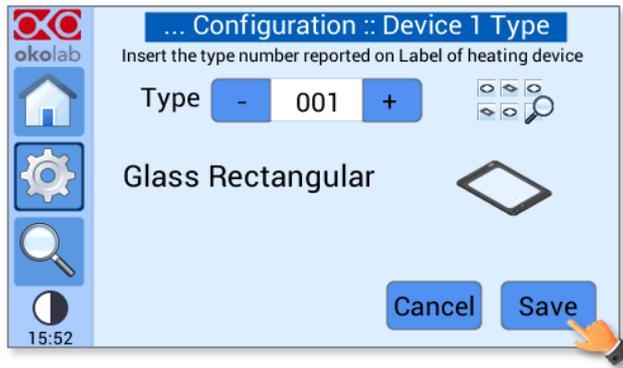

Figure 20. Selection confirmation.
- 3 Press on *Save* button to confirm or *Cancel* button to undo (see Figure 20).